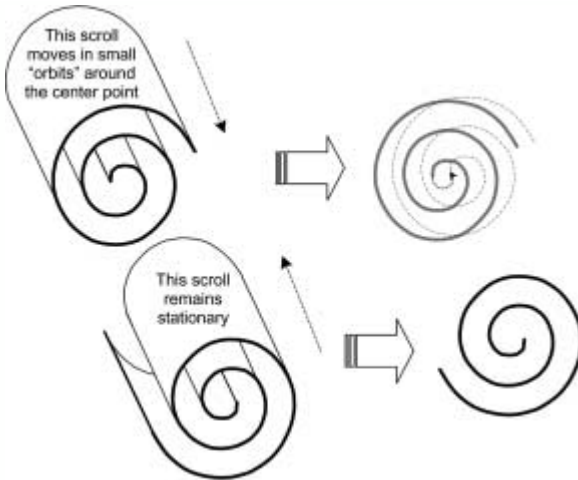
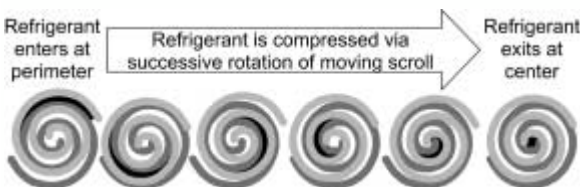

FIGURE 8.7a Scrolls in a scroll compressor.
FIGURE 8.7b Compression of refrigerant in a scroll compressor.
*Scroll compressors* are used in small systems of less than 10 tons capacity. Their primary use is in residential systems and heat pumps. Figure 8.7a shows a schematic of the two scrolls that make up such a compressor. The scrolls are like rolled-up sheets of metal that interweave with each other. One scroll is fixed and the other rotates in small orbits as shown. Figure 8.7b shows how the refrigerant enters at the perimeter (left side of figure), is compressed by the orbiting